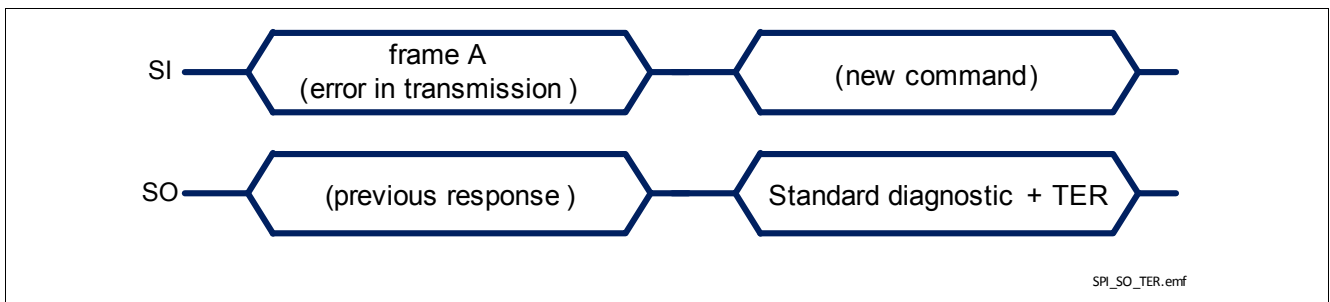

Figure 32 BTS54040-LBB response after an error in transmission
- in case an error in transmission happened during the previous frame (for instance, the clock pulses were not multiple of 8), shown in Figure 32